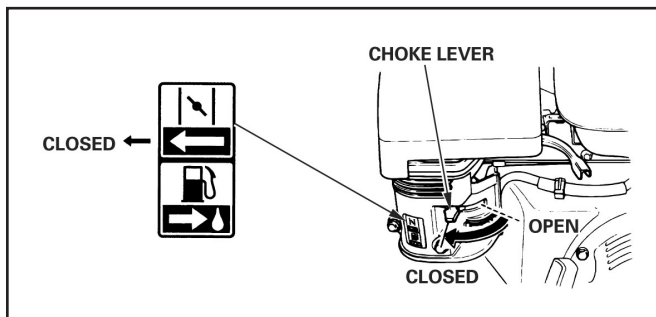

Figure 6. Choke Lever Honda
5. Move the choke lever to the CLOSED position as shown in Figure 6. Honda pictured below, see figure 5 for Briggs choke location.